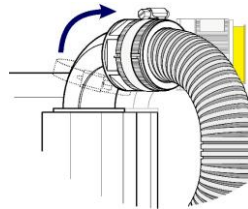

Fig 5.2.5
▶ Keep the plastic clamp tight by metal hose clamp. (Fig 5.2.5)